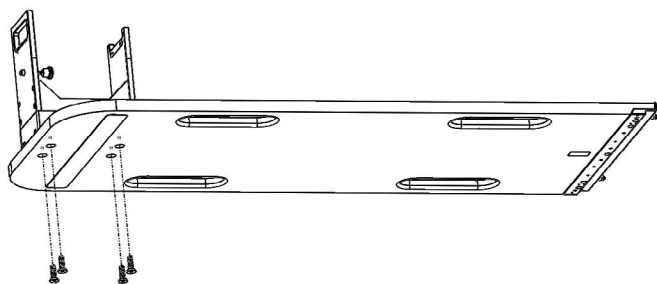

Fig. 8
2. Use four $\frac{3}{8}$ – 16 x 1.375" flat head screws to attach the Phantom Holder Top onto the kVue CT Phantom Holder Base Assembly from the bottom (Fig. 8 & 9).